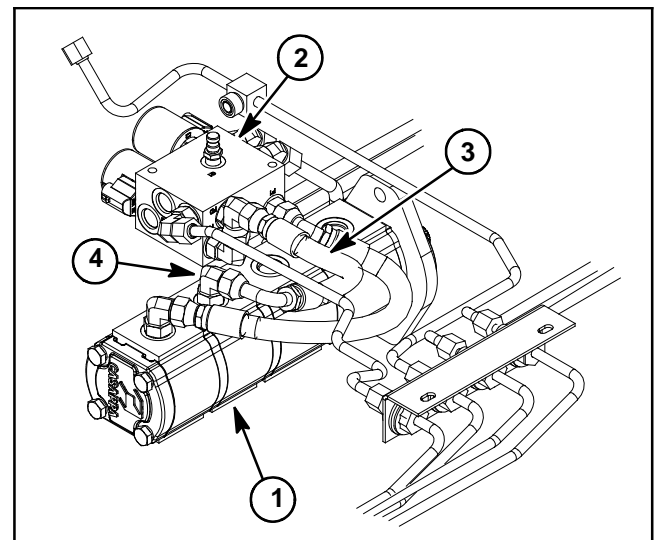

Figure 50
1. Make sure hydraulic oil is at normal operating temperature by operating the machine under load for approximately ten (10) minutes. Make sure the hydraulic tank is full.
3. With the engine off and cutting decks lowered, disconnect the hydraulic hose from the 90° fitting in the third gear pump section which supplies the steering and lift/lower circuits (Fig. 50).